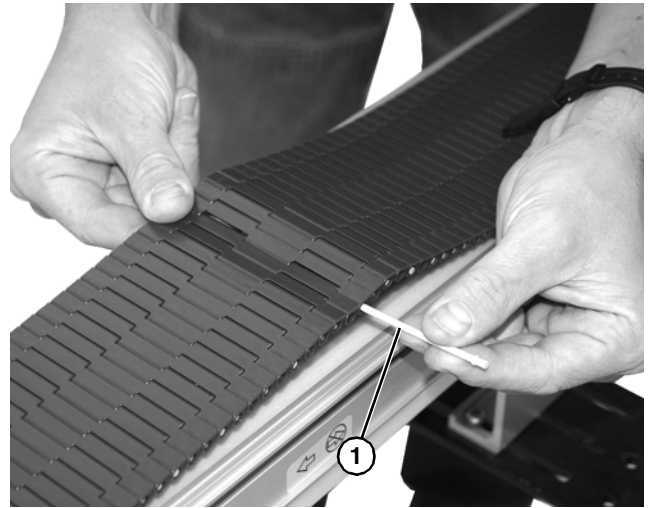

Figure 41
5. Splice the belt together by pushing the plastic rod (Figure 41, item 1) through the side hole on the rod retaining side of belt.